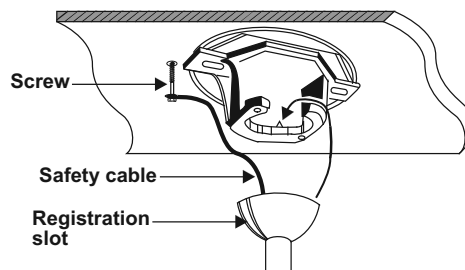

Figure 8
8. Now lift the motor assembly into position and place the hanger ball into the hanger bracket. Rotate down rod until the "Check Tab" has dropped into the "Registration Slot" and the down rod and ball assembly seat firmly. The down rod and ball assembly should not rotate if this is done correctly. (Fig. 8)
9. An additional safety support is provided to prevent the fan from falling. Secure the safety cable to the ceiling joist with screw and washer. (Fig. 8)